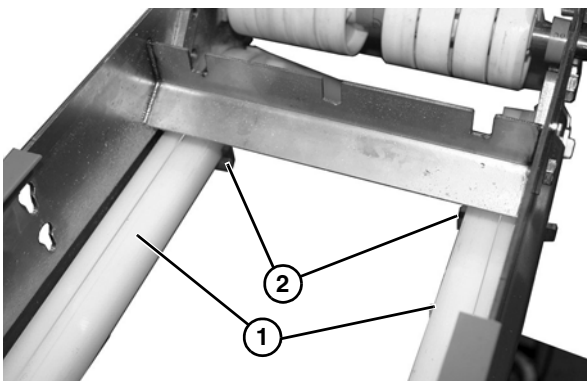

Figure 35
2. Install belt return (Figure 35, item 1) onto mounting bracket (Figure 35, item 2).